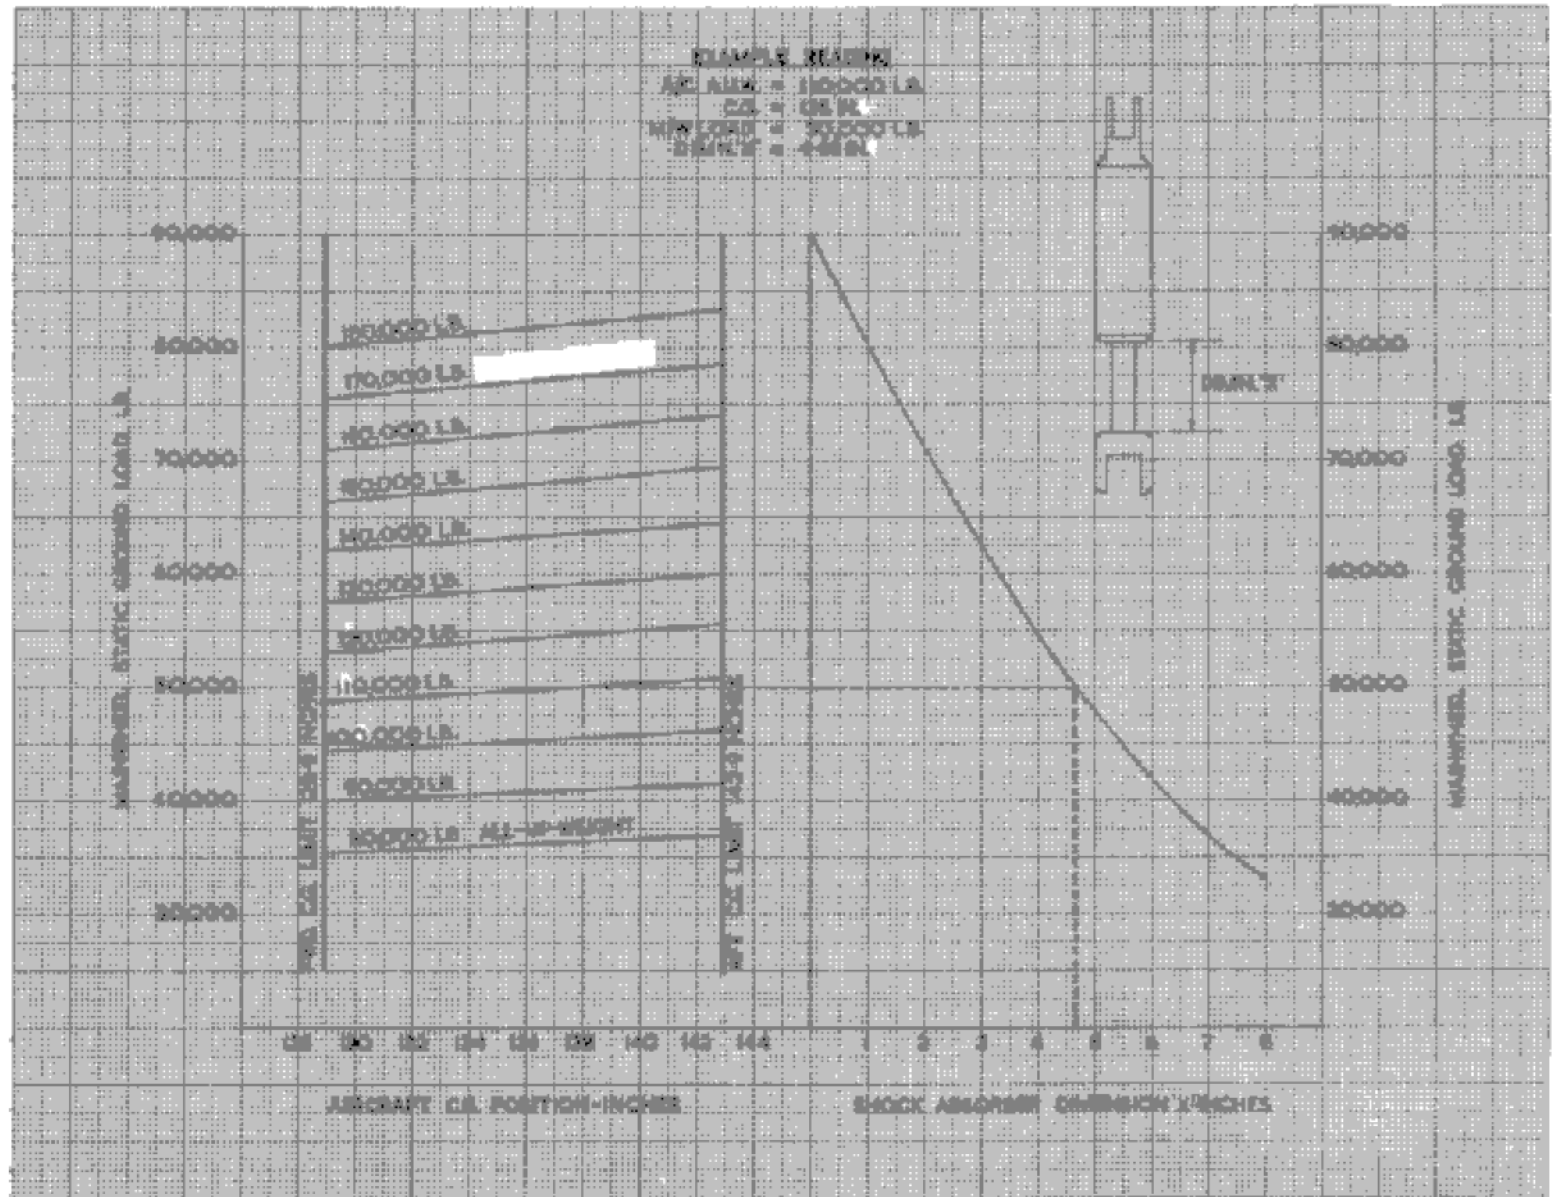

Fig.5. Main-wheel unit static load/deflection curve
25. Provided the C.G. position and the aircraft All-up Weight is known the static ground load on the main-wheel unit and the corresponding main-wheel unit shock-absorber extension can be determined from fig.5. A check of the serviceability of the shock-absorber can then be made by measuring the extension (dimension X, fig.5) and comparing it with the extension given for that particular main-wheel unit loading. Charging of the main-wheel unit shock-absorber is given in A.P.1803E, Vol.1, Sect.3, Chap.8.